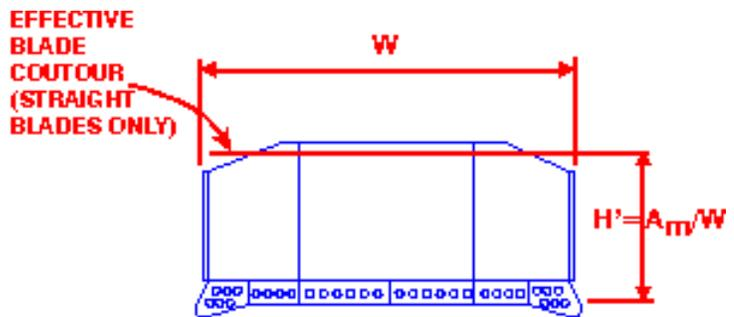

FIG. 3 - STRAIGHT, SEMI-U, U-BLADE DIMENSIONS
4.1.2 Blade Width ( $W$ , Fig.3)-The distance in meters from outside to outside of the blade, exclusive of the end bits.  $W$  corresponds to dimension G of SAE J173.
4.1.3 Effective Blade Height ( $H'$ , Fig. 3)- The vertical height in meters that with  $W$  width, produces a projected area equal to  $A_m$ ; i.e.:  $H' = A_m/W$ .
4.1.4 Effective Blade Contour (Fig. 3)- Simplified representation of the blade face for calculating the blade capacity. It is the vertical plane bounded by  $W$  and  $H'$ .